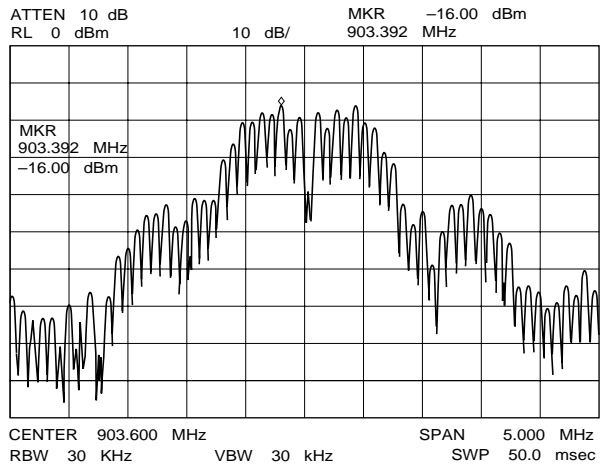
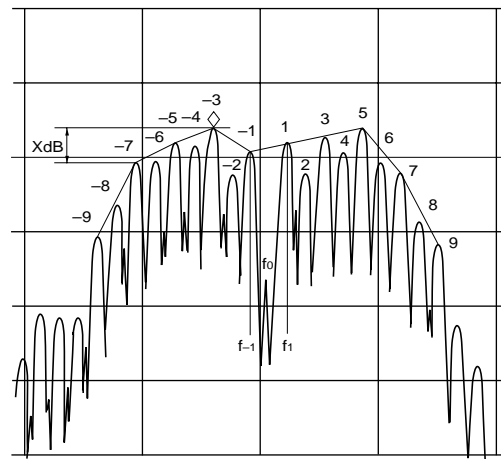

Fig. 1
Fig. 2
- Acceptable level [XdB] difference between the highest peak and the lowest peak of odd side band (the first to seventh side band from Center Frequency ; Transmission Frequency f_0 : CH1) is under 10 dB. (Refer Fig. 1 and Fig. 2)